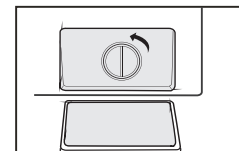

Fig 19
2. Turn the filter down as shown with the figure and take out sundries matters (Fig19) .